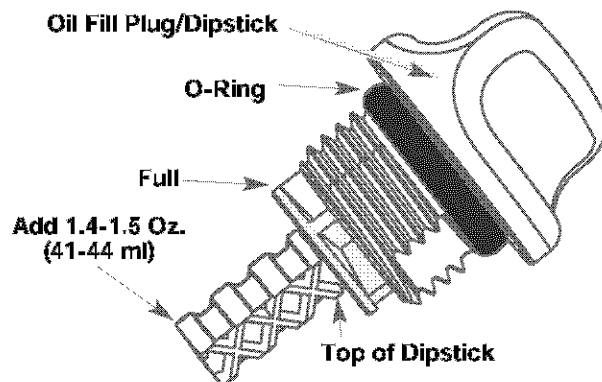

Fig. 41
5. Remove the oil fill plug/dipstick and check oil level. Oil should be up to the top of the dipstick (Fig. 41).